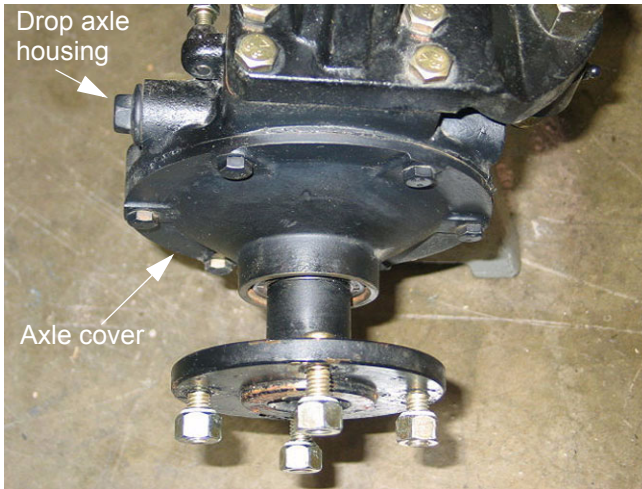

Figure 6.2
- 6.2. Remove the axle cover bolts using a 13 mm wrench. See Figure 6.2.